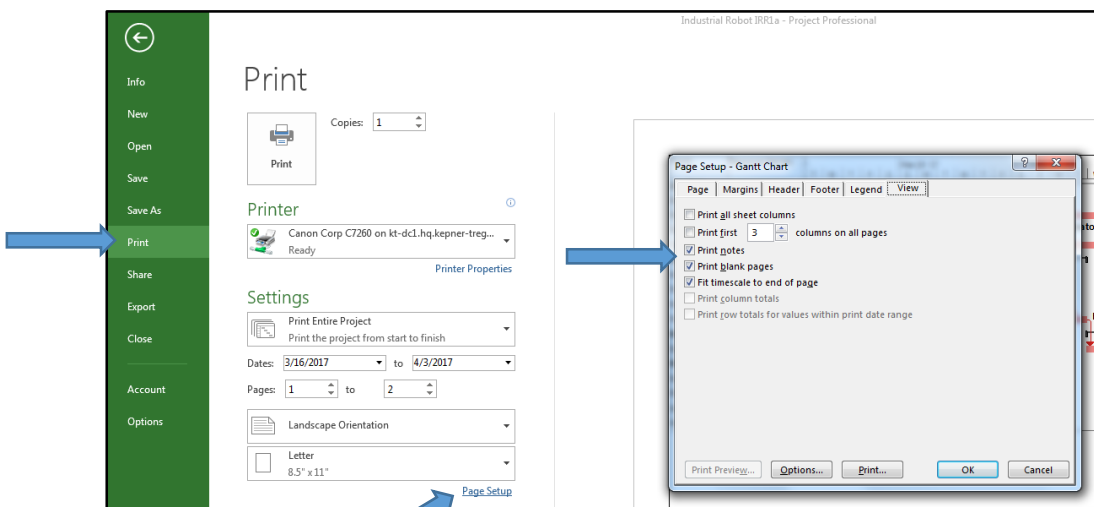

Figure 2B
- To print the notes (Figure 2B), click the File tab, and then click Print and Page Setup. In the Page Setup dialog box, click the View tab and then select Print notes. Note: the notes will be printed on the last page and they will be identified by the ID number and not the WBS number.